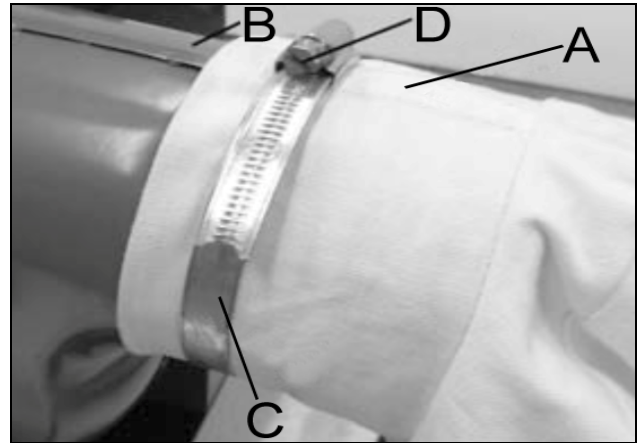

Figure 4
Attach the dust collector bag as shown in Fig.4. Slide the bag (A) over the dust outlet (B) and fix into place with the hose clamp supplied (C). Tighten the hose clamp with a flathead screwdriver.